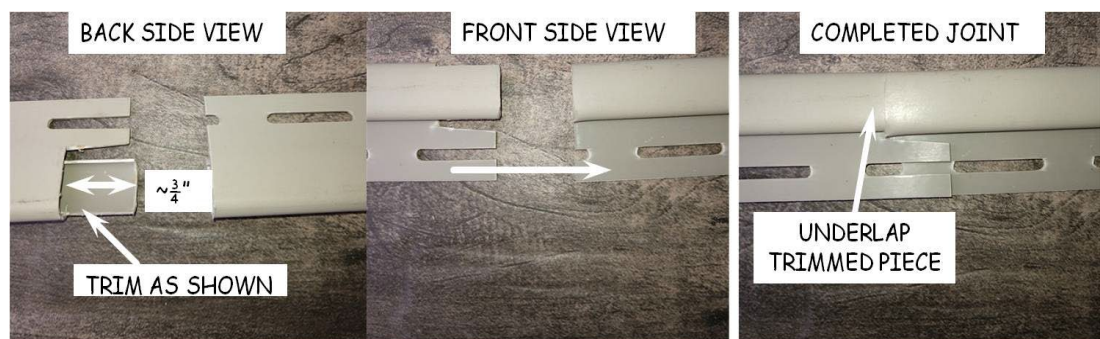

Figure 11-14. Undersill (“Utility”) Trim.
1. Undersill trim (or “utility trim” as noted in Figure 11-14) is installed below the soffit F-channel on eave sides of the house, and below any porch F-channel. Nail snugly approximately every fifth slot using 2½" siding nails (use 1½" siding nails when applying directly over OSB sheathing) being sure to hit framing or OSB sheathing.
2. Where a joint is required in the undersill, prepare one end as shown in Figure 11-14, and insert into the end of the other piece, leaving a ⅛" gap between ends.